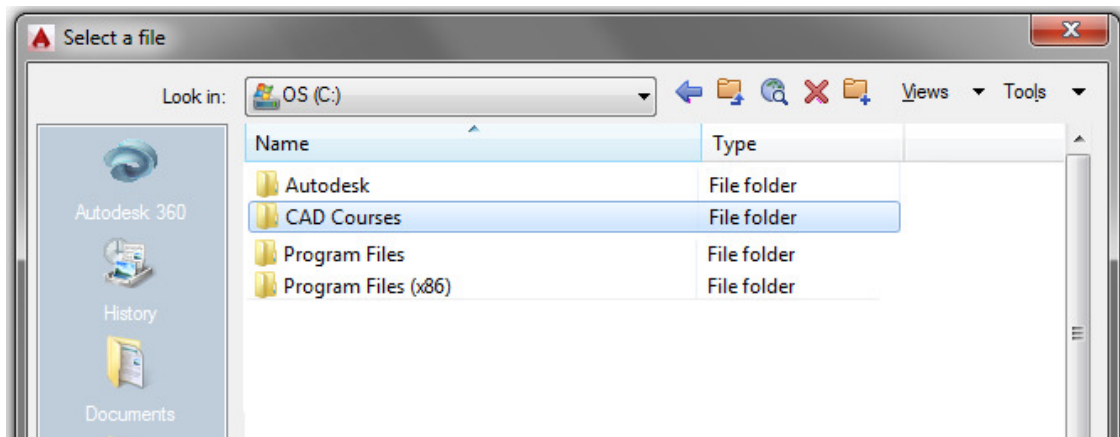

Figure Step 8
Step 8 In the Select a file dialogue box, pull down the Look in: box and find C drive. Click the folder: CAD Courses. (Figure Step 8)